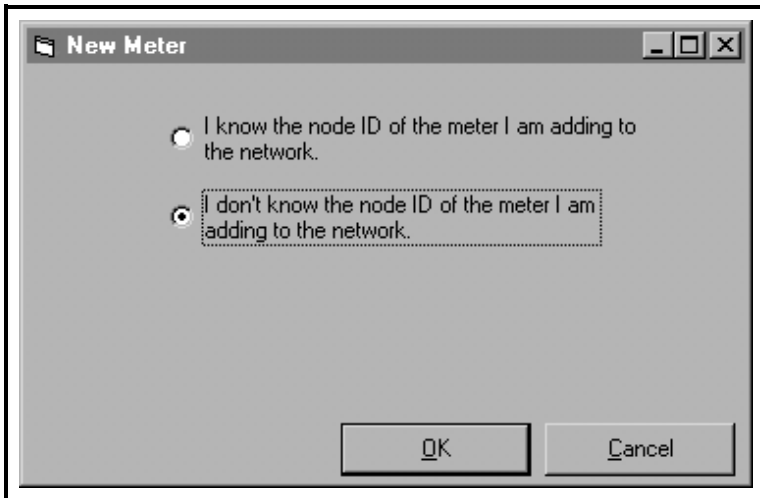

Figure 4-9: The Node ID Dialog Box
5. After selecting the “New” and “Meter” options, the dialog box shown in Figure 4-9 below appears. Select the “I don’t know the node ID of the meter I am adding to the network” radio button and then click on the [OK] option button.
- a. At the Node ID dialog box (see Figure 4-9 on page 4-12), select the "*I know the node ID of the meter I am adding to the network*" option and click on the [OK] option button.